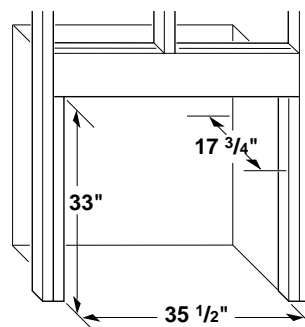
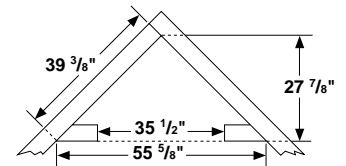

Figure 34 - Rough Opening for Installing in Wall
Figure 35 - Rough Opening for Installing in Corner
1. Frame in rough opening. Use dimensions shown in Figure 34 for the rough opening. If installing in a corner, use dimensions shown in Figure 35 for the rough opening. The height is 33" which is the same as the wall opening above.